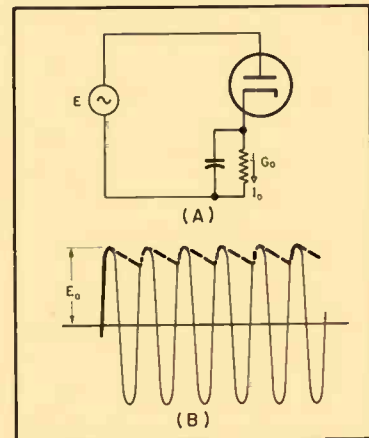
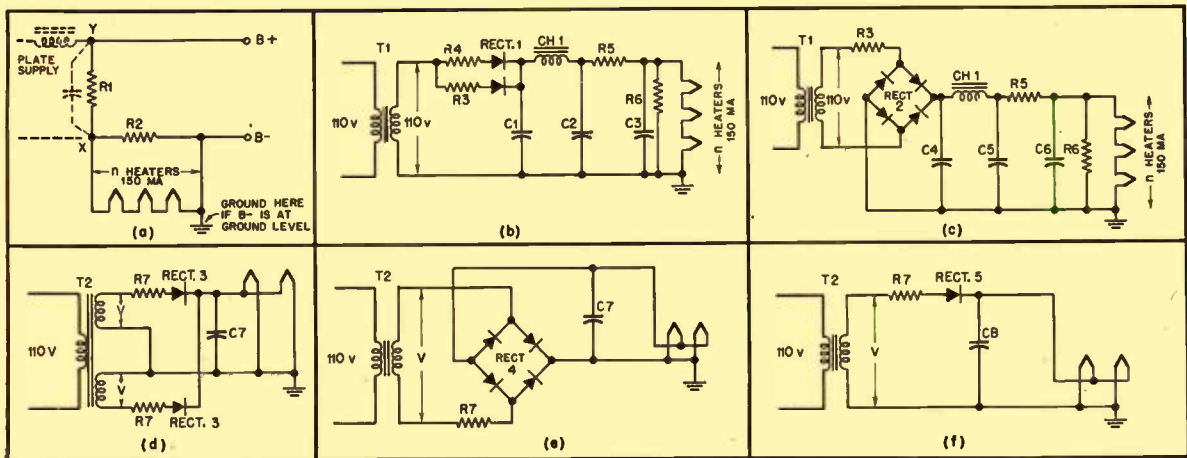

Fig. 2. (A) Simplified diode detector circuit and (B), the resultant current through load resistor when rectifying an unmodulated carrier signal.
Fig. 1. Typical circuits for supply of direct current for heaters of low-level amplifier stages.
In the operation of the simplest diode rectifier circuit, an ideal diode is assumed and the signal is unmodulated with an input current impedance of zero. In a circuit such as shown at (A) of Fig. 2, the diode current has alternating components of fundamental and harmonic frequencies which are bypassed by the load capacitor, and a rectified component,  $I_o$  which flows through a load conductance  $G_o$  placed across the capacitor. The rectified load voltage  $E_o$  is free of alternating components since they are bypassed. In operation, each positive peak of the input voltage charges the capacitor to a voltage  $E_o$  equal to the carrier peak voltage. During each negative half cycle, a small part of this charge leaks off through  $G_o$  but is restored at the next positive peak of input voltage, resulting in a waveform as shown in Fig. 2. The diode current
Basic circuits for d.c. heater supply are shown in Fig. 1. The plate-supply connection is diagrammed at (A). With a string of  $n$  12-volt heaters (150 ma) the voltage drop from  $X$  to  $B-$  will be  $12.6n$ , and the resistors  $R_1$  and  $R_2$  are selected to provide this condition. If the normal plate current drain is less than 150 ma,  $R_2 = 0$ , and  $R_1$  is adjusted to give the 150-ma current through the heater string. If the normal plate current is over 150 ma,  $R_1$  is adjusted to draw a few ma (as a safety bleeder across the plate supply filter) and  $R_2$  is adjusted to by-pass the excess current. Adjustment in either case may be made with a milliammeter in the heater loop or with a voltmeter between  $X$  and  $B-$ . The available plate-supply voltage between  $B-$  and  $B+$  will be the supply voltage across  $X$   $Y$  less the drop between  $X$  and  $B-$  in the heater loop.
Figure 1 (B) is the wiring diagram of a separate heater-supply unit shown in Fig. 2, built by the author as a stand-by and bench unit. A 110/110-volt isolation transformer supplies a half-wave selenium rectifier followed by a capacitor-input filter, a load-adjusting resistor, and a safety bleeder. The unit will supply one to six 12-volt, 150-ma heaters—the load-adjusting resistor being set to the